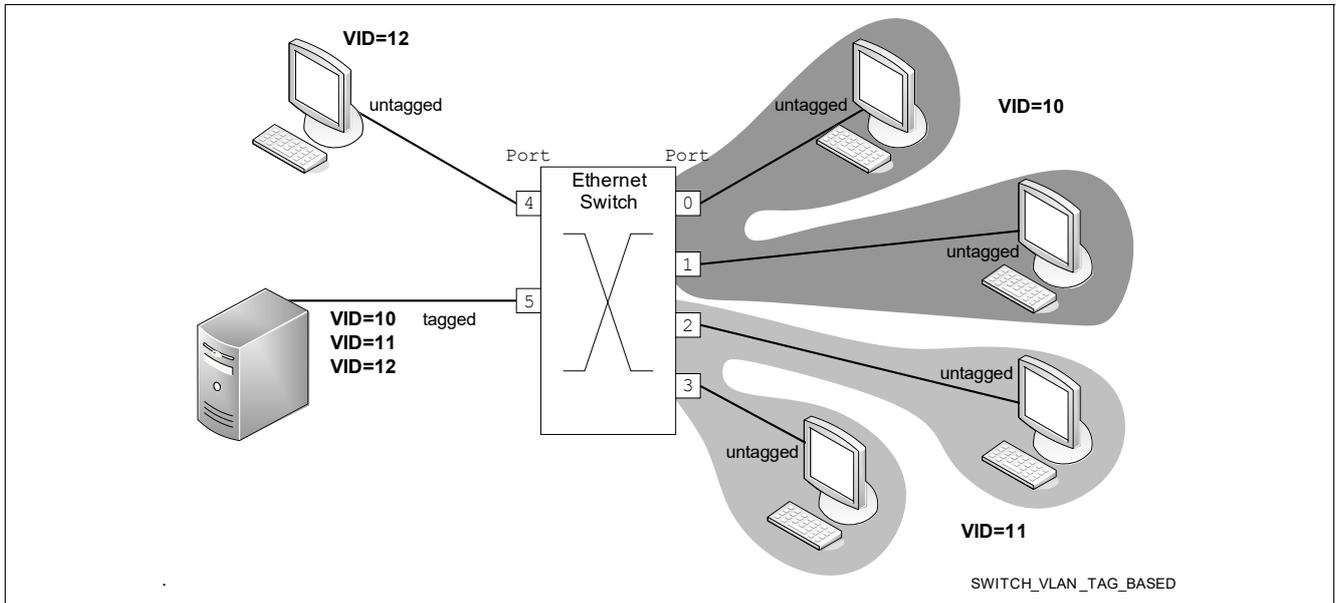

Figure 29 Tag-based VLAN Example
**Figure 29** shows an example where six LAN stations are connected to a single 6-port switch device. Three VLAN groups are added to the active VLAN set. Port 0 and port 1 are members of the port-based VLAN group with VID = 10, port 2 and port 3 are members of the port-based VLAN group with VID = 11. Port 4 is member of the port-based VLAN group with VID = 12. Port 5 is connected to a server and may transmit and receive tagged VLAN packets of any of the defined groups.